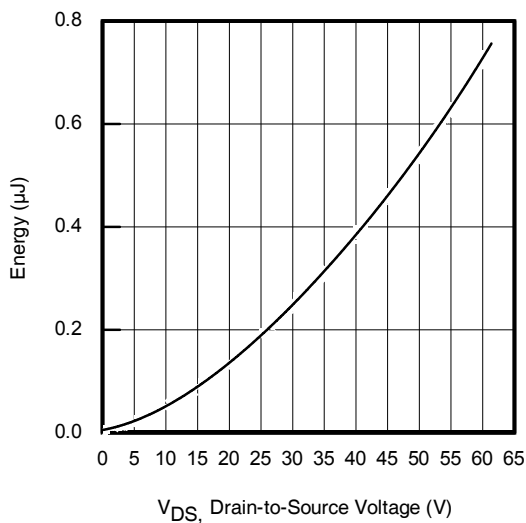

Fig. 11 Typical C_{oss} Stored Energy
- ① Calculated continuous current based on maximum allowable junction temperature. Bond wire current limit is 50A. Note that current limitations arising from heating of the device leads may occur with some lead mounting arrangements.
- ② Repetitive rating; pulse width limited by max. junction temperature. (See fig. 11)
- ③ Limited by T_{Jmax} , starting $T_J = 25^\circ\text{C}$, $L = 0.136mH$, $R_G = 25\Omega$, $I_{AS} = 50A$, $V_{GS} = 10V$. Part not recommended for use above this value.
- ④ $I_{SD} \leq 50A$, $di/dt \leq 1109A/\mu s$, $V_{DD} \leq V_{(BR)DSS}$, $T_J \leq 175^\circ\text{C}$.
- ⑤ Pulse width $\leq 400\mu s$; duty cycle $\leq 2\%$.
- ⑥ $C_{oss\ eff. (TR)}$ is a fixed capacitance that gives the same charging time as C_{oss} while V_{DS} is rising from 0 to 80% V_{DSS} .
- ⑦ $C_{oss\ eff. (ER)}$ is a fixed capacitance that gives the same energy as C_{oss} while V_{DS} is rising from 0 to 80% V_{DSS} .
- ⑧ When mounted on 1" square PCB (FR-4 or G-10 Material). For recommended footprint and soldering techniques refer to application note #AN-994
- ⑨ R_{θ} is measured at T_J approximately 90°C .